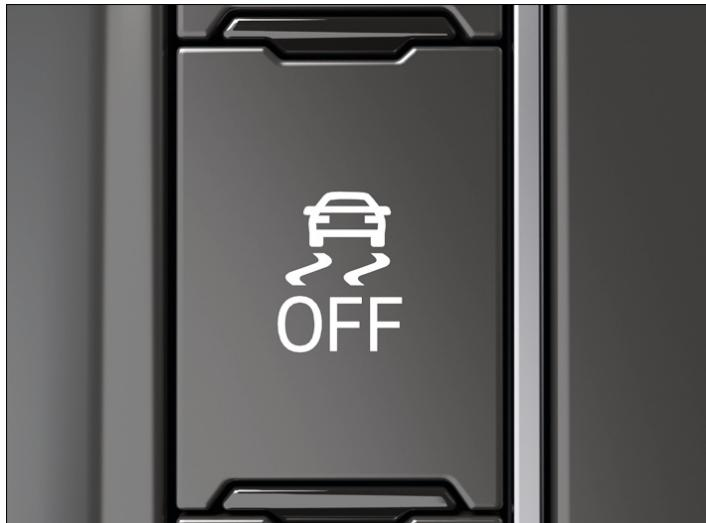

Fig. 1 In the centre console: button for switching ESC Sport on and off manually (depending on equipment).
1. Press the  → *Fig. 1* button for approximately 1 second